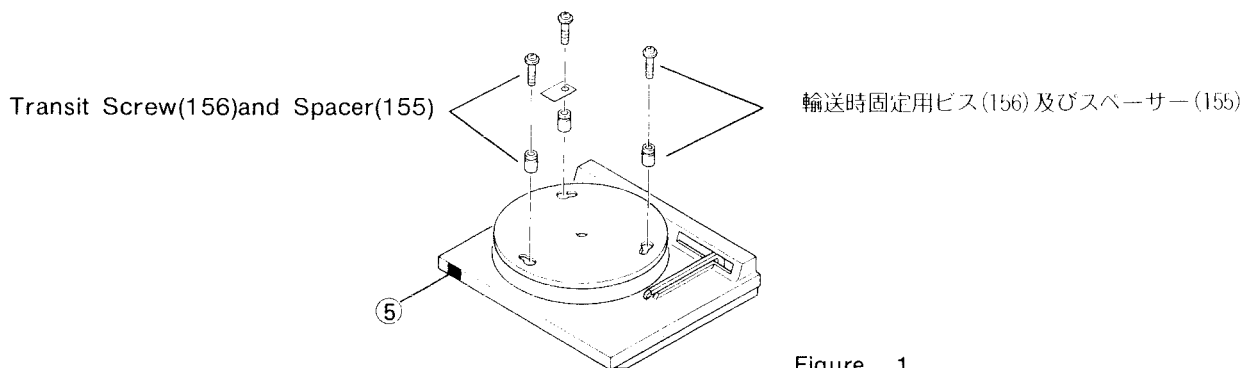

Figure 1
- 1-1. Press the POWER Button (5) so that the power will be switched off, and remove the turntable (Fig. 1).
(図1)